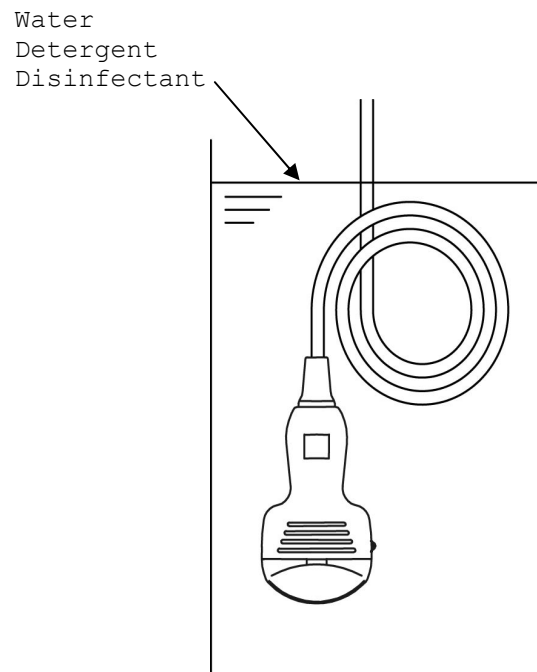

Fig.3 Immersion of the probe
- 2) Immerse the immersible part of the probe without connector into the diluted detergent solution (see Fig 3). Wipe the immersible part of the probe under the surface of the detergent solution with a soft cloth to remove all visible soil. Be sure that all grooves of the probe are implemented during the cleaning process.
- 5) Rinse the probe with running tap water for 1 minute. (alternatively: immerse the immersible part of the probe in a tray filled with deionized water/tap water (see Fig.3) for 5 min.)
- 3) Immerse the immersible part of the probe into the disinfectant (see Fig. 3). Set a clock to insure the recommended contact time which is 5 minutes.
- 4) Rinse the immersible part of the probe with deionized water for 1 minute. (alternatively: immerse the immersible part of the probe in a tray filled with deionized water (see Fig. 3) for 5 min.)